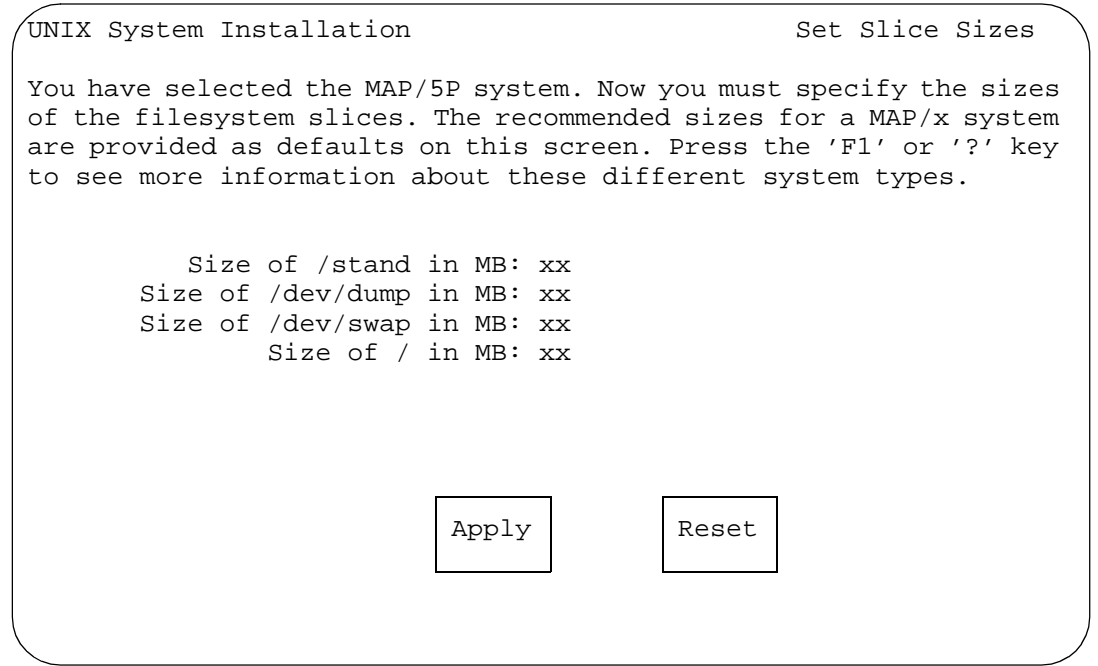

Figure 8-13. UnixWare Installation Set Slice Sizes Screen
The system displays the UnixWare Installation Set Slice Sizes screen (Figure 8-13).
- 1. Starting at the UnixWare Installation Set Slice Sizes screen (Figure 8-13), use the left ◀ and right ▶ arrows on your keyboard to move through the field selections. Use the down ▼ arrow to move to the next field.